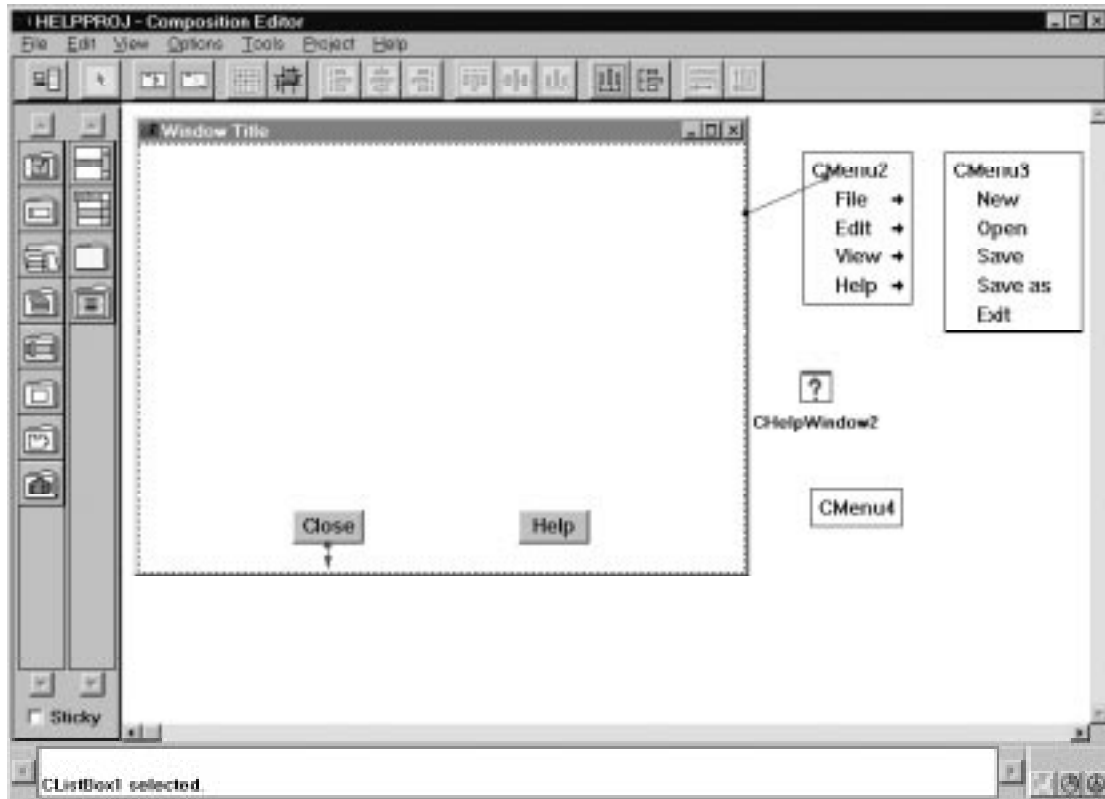

Figure 69. Composition Editor window showing the addition of the third menu part
1. Select , the CMenu part, from the parts palette and drop it on the free-form surface next to the window. Your part should now look similar to Figure 69 on page 180.